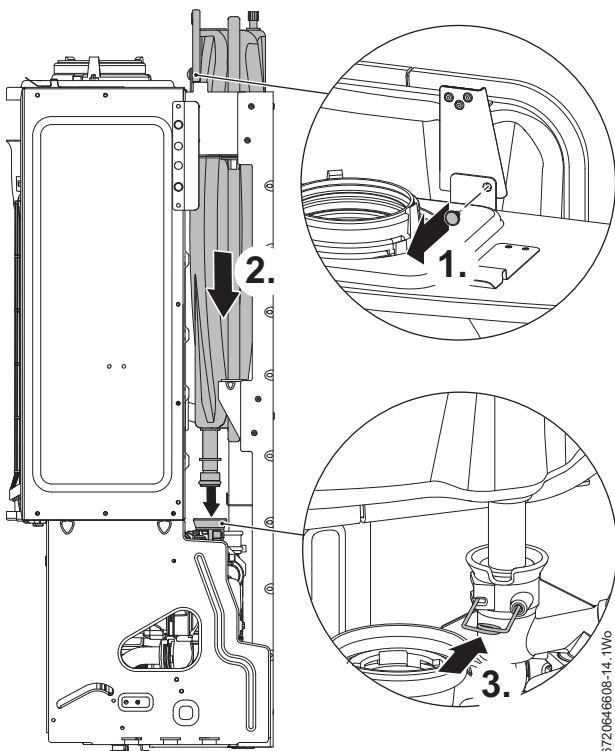

Fig. 36 Expansion vessel connection
1. Release the expansion tank from the retaining bracket, see fig 36.
2. Ensure that the wire retaining clip on the pump manifold is fully withdrawn, but not removed, before inserting the expansion vessel pipe into pump manifold, see fig. 36.